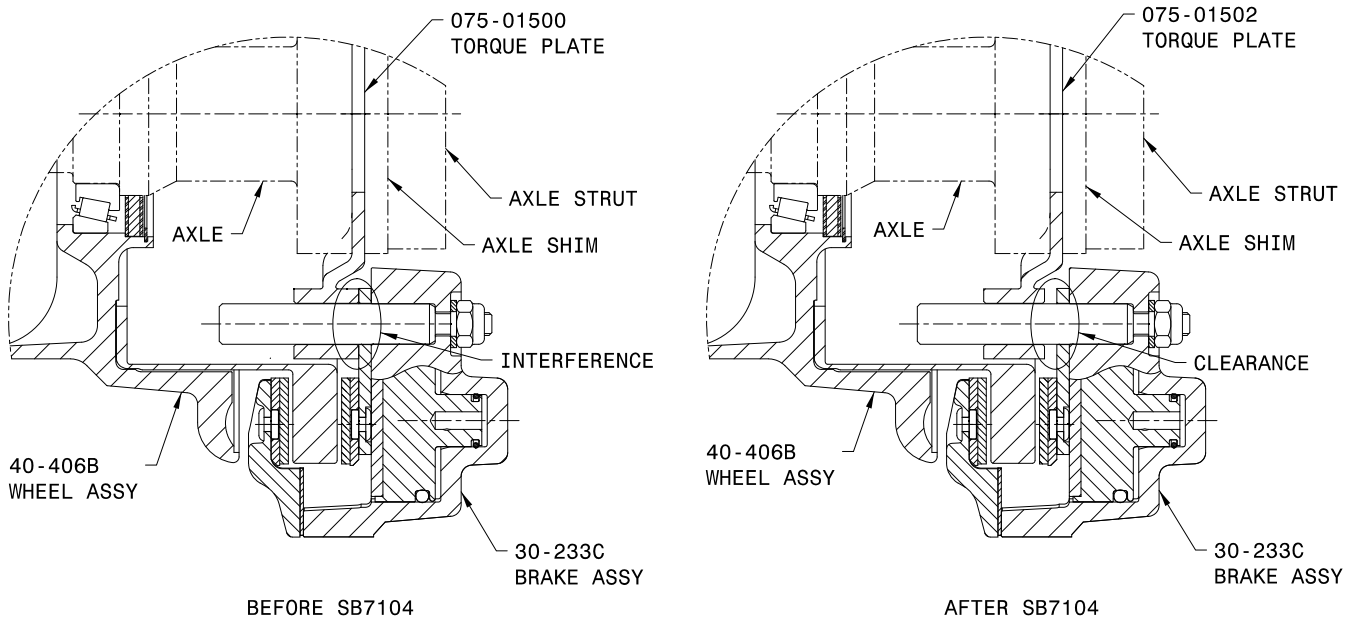

Figure 2 Torque plate interface
(2) Torque plate interface. Refer to Figure 2.